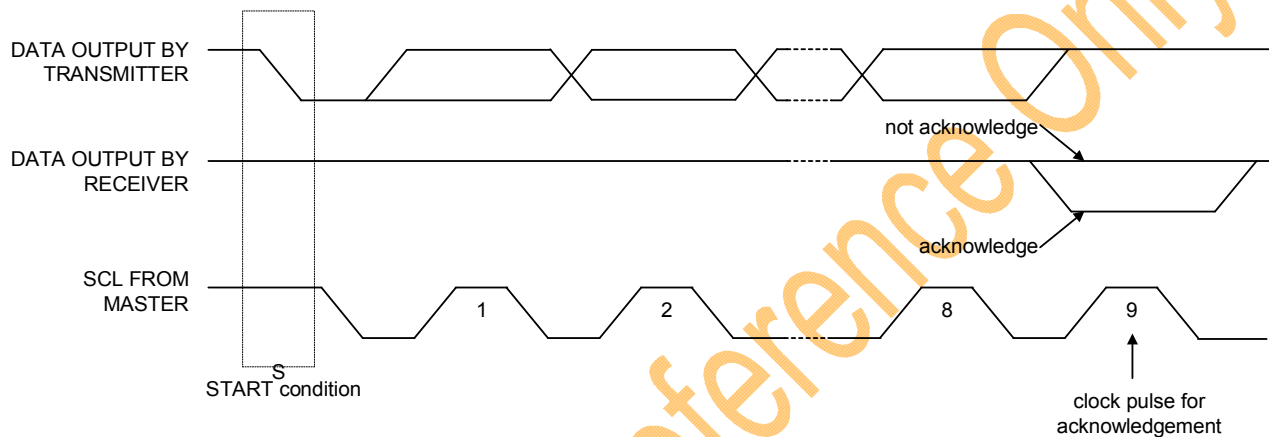

Figure.16 Acknowledge
The CH1115 supports both read and write access. The $R/\bar{W}$ bit is part of the slave address. Before any data is transmitted on the I^2C -bus, the device that should respond is addressed first. Two 7-bit slave addresses (0111100 and 0111101) are reserved for the CH1115. The least significant bit of the slave address is set by connecting the input SA0 to either logic 0(VSS) or 1 (VDD1). The I^2C -bus protocol is illustrated in Fig.16. The sequence is initiated with a START condition (S) from the I^2C -bus master that is followed by the slave address. All slaves with the corresponding address acknowledge in parallel, all the others will ignore the I^2C -bus transfer. After acknowledgement, one or more command words follow which define the status of the addressed slaves. A command word consists of a control byte, which defines C_0 and $D/\bar{C}$ (note1), plus a data byte (see Fig.16). The last control byte is tagged with a cleared most significant bit, the continuation bit C_0 . After a control byte with a cleared C_0 -bit, only data bytes will follow. The state of the $D/\bar{C}$ -bit defines whether the data-byte is interpreted as a command or as RAM-data. The control and data bytes are also acknowledged by all addressed slaves on the bus. After the last control byte, depending on the $D/\bar{C}$ bit setting, either a series of display data bytes or command data bytes may follow. If the $D/\bar{C}$ bit was set to '1', these display bytes are stored in the display RAM at the address specified by the data pointer. The data pointer is automatically updated and the data is directed to the intended CH1115 device. If the $D/\bar{C}$ bit of the last control byte was set to '0', these command bytes will be decoded and the setting of the device will be changed according to the received commands. The acknowledgement after each byte is made only by the addressed slave. At the end of the transmission the I^2C -bus master issues a stop condition (P). If the $R/\bar{W}$ bit is set to one in the slave-address, the chip will output data immediately after the slave-address according to the $D/\bar{C}$ bit, which was sent during the last write access. If no acknowledge is generated by the master after a byte, the driver stops transferring data to the master.